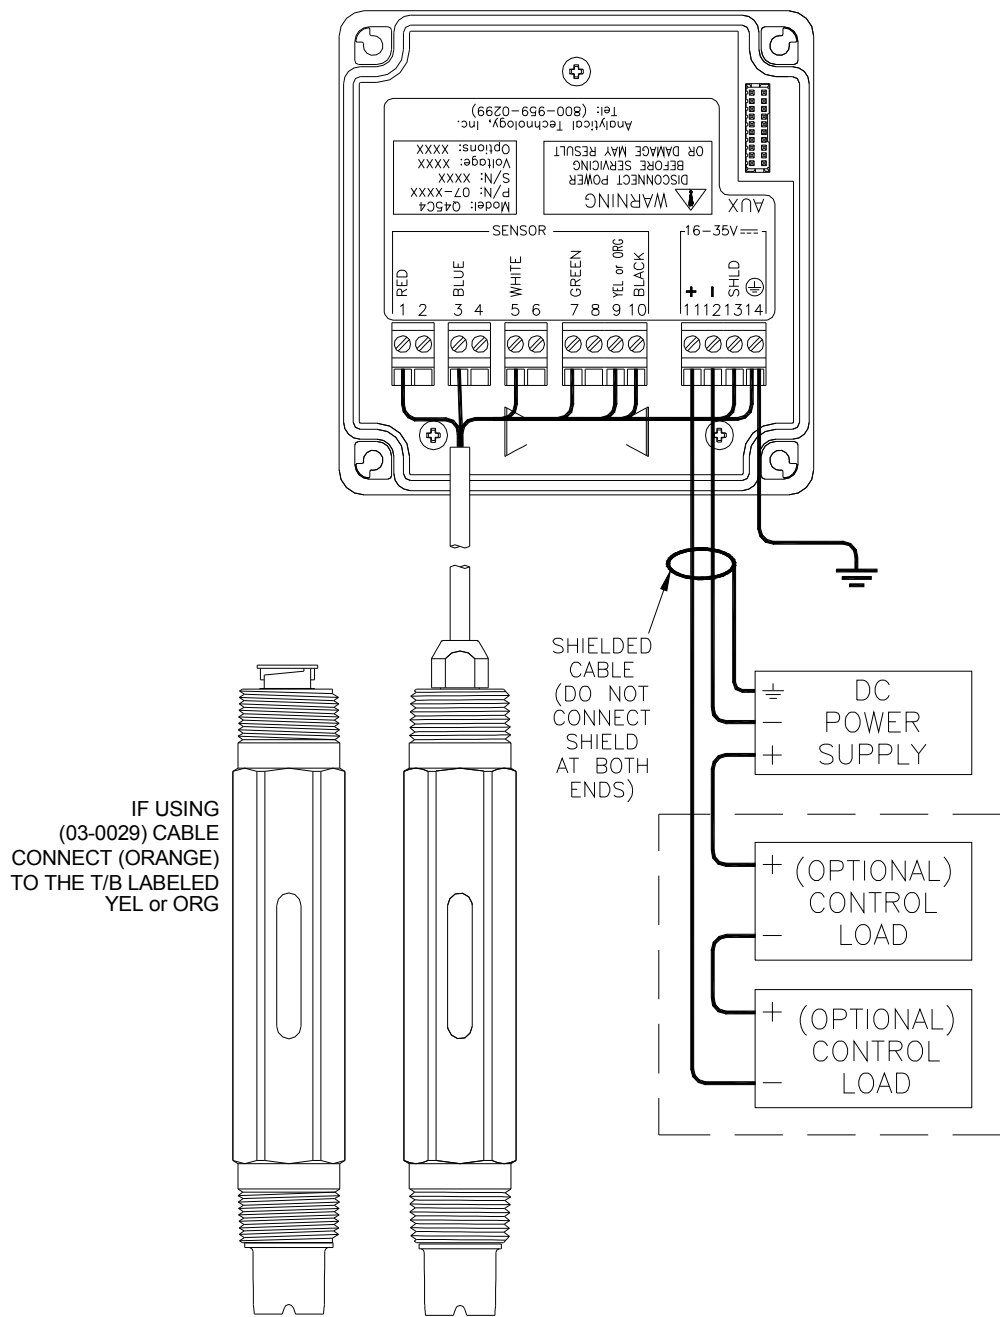

Figure 15 - Loop Power Connection
1. Use wiring practices that conform to all national, state and local electrical codes. For proper safety as well as stable measuring performance, it is important that the earth ground connection be made to a solid ground point (Figure 15). The AC power supply contains a single 100mA (115V) or 50mA (230V) slo-blo fuse. The DC powered version contains a 250 mA fuse. The fuse **F1** is located adjacent to **TB5** and is easily replaceable.
In the two-wire configuration, a separate DC power supply must be used to power the instrument. The exact connection of this power supply is dependent on the control system into which the instrument will connect. See Figure 15 for further details. Any twisted pair shielded cable can be used for connection of the instrument to the power supply. Route signal cable away from AC power lines, adjustable frequency drives, motors, or other noisy electrical signal lines. Do not run sensor or signal cables in conduit that contains AC power lines or motor leads.
Refer to Figure 19 & Figure 20, Cable Description and Figure 15, Wiring Diagram for illustrative details on electrical installation.